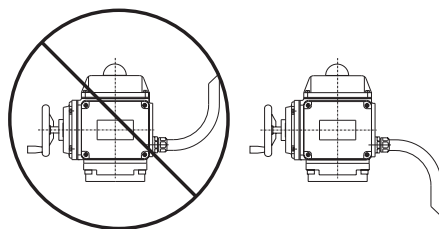

Figure 1.2
- Best practice when connecting conduit to Series 1000-X actuators is to run the conduit from below the actuator upward to prevent condensation from conduit working into the actuator; as shown in Figure 1.2.